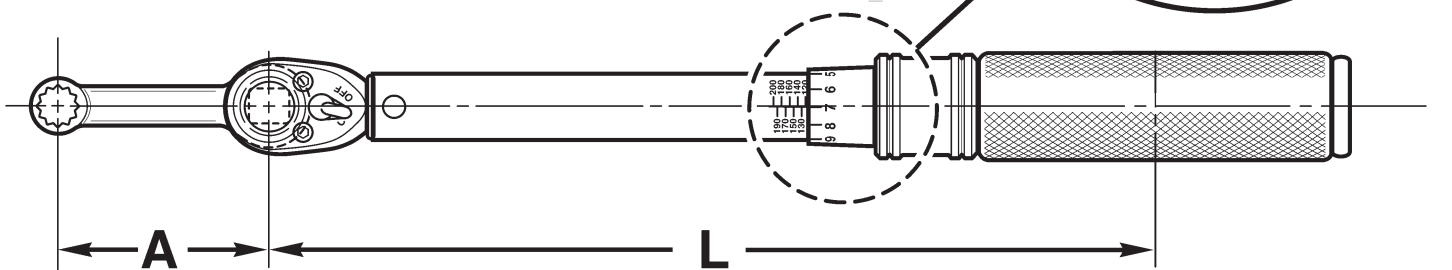

FIGURE 20-1 LENGTHENING TORQUE WRENCH EFFECTIVE LENGTH
4. If special adapters which change effective length of torque wrench are used, final torque value must be calculated using formulas in Figures 20-1 and 20-2.